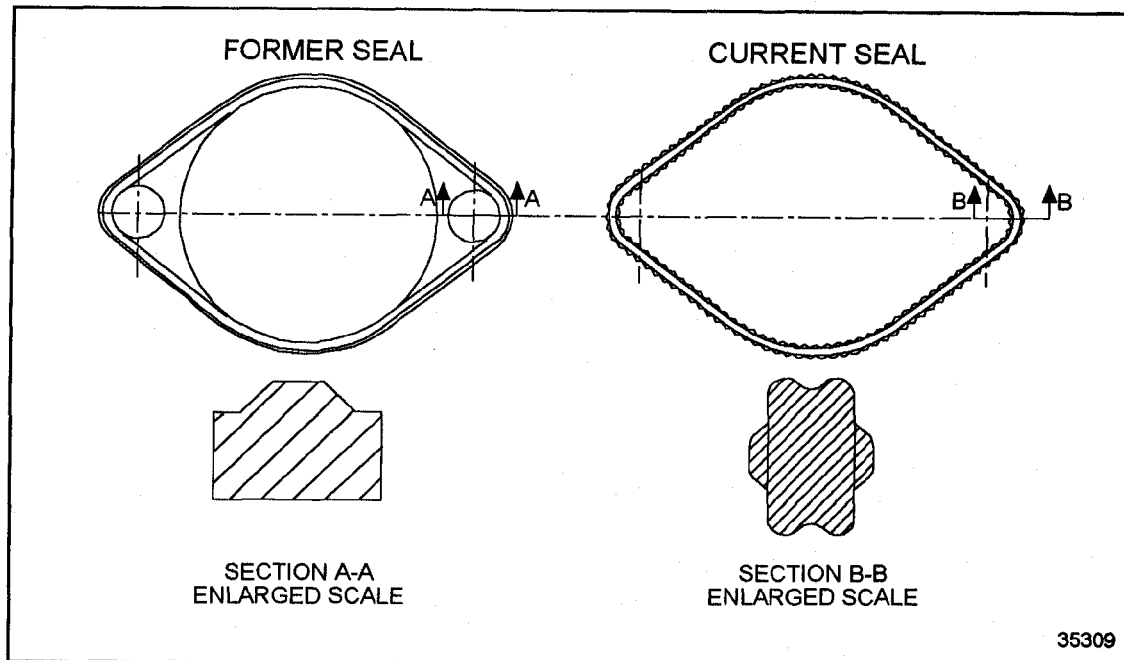

Figure 1-324 Camshaft Thrust Plate Oil Seal
1. Lubricate a new perimeter seal with clean engine oil and, after passing it between the thrust plate and cylinder head, carefully install it in the thrust plate groove. If necessary, blunt the end of a hook type pick and use the curve of the pick to push the seal into the groove. The former two-bolt thrust plate oil seal design was redesigned to provide superior oil sealing characteristics. See Figure 1-324 for design configuration. The current thrust plate oil seal uses a three-bolt design, as of serial number 6R352129.